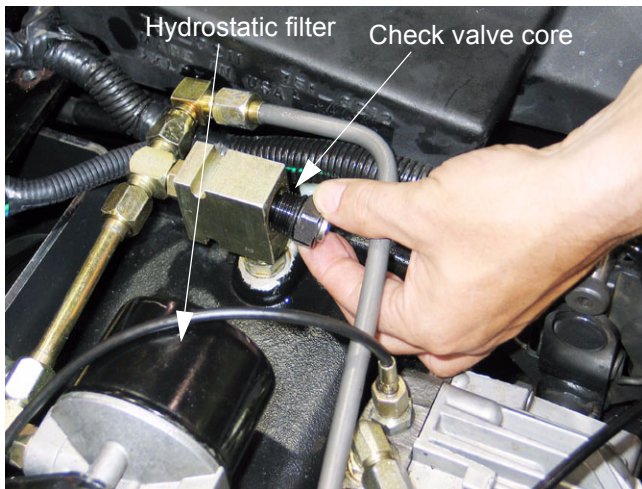

Figure 5.20
- 5.20. The core of the valve can be removed for inspection. The nut and set screw are not a means of adjusting pressure. See Figure 5.20.